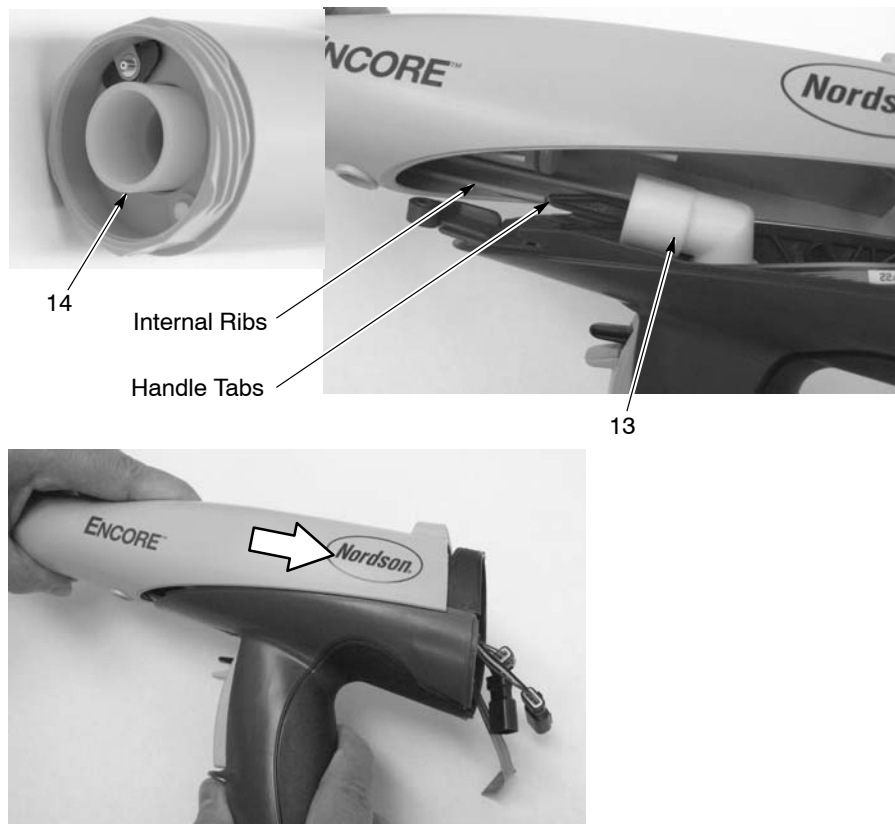

Figure 5-14 Outlet Powder Tube Installation
16. See Figure 5-14. Insert the outlet tube (14) with O-rings installed through the front of the gun body until the end is even with the end of the gun body.
17. Make sure the O-ring is installed in the groove on the inlet powder tube. Install the elbow (13) onto the end of the inlet tube.